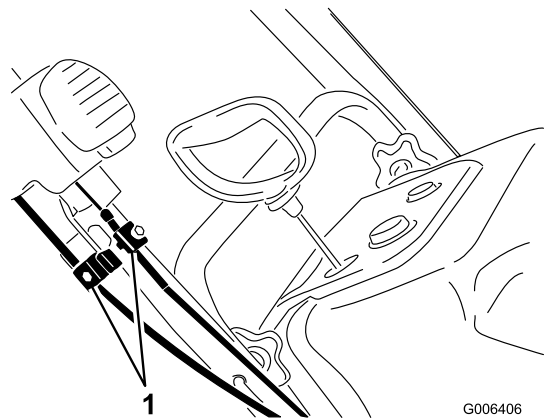

Figure 41
- Loosen the 2 Quick Shoot control cable clamps (Figure 41).